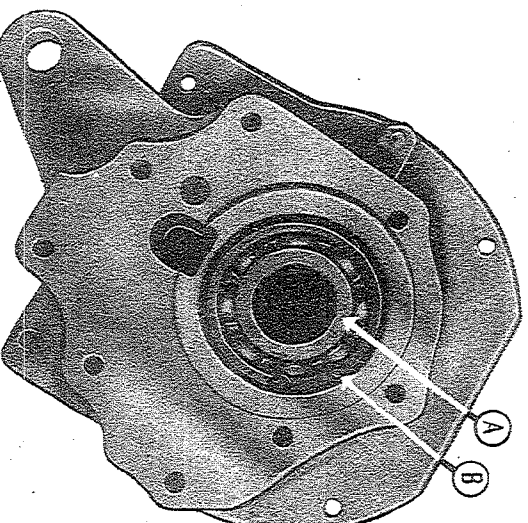

Fig. 20. Adaptor plate with mainshaft bearing
3. Press the ball journal bearing A for the mainshaft into the housing on the adaptor plate and fit the circlip B (Fig. 20).